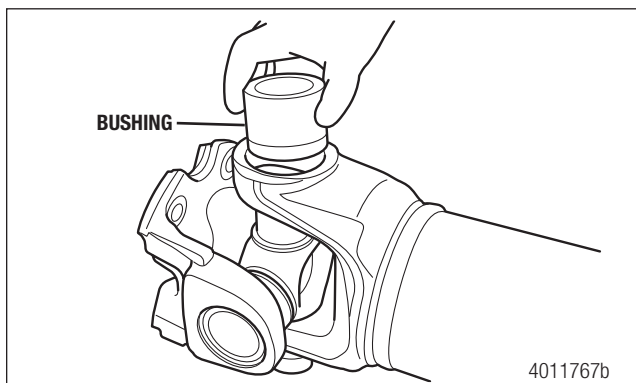

Figure 5.95
4. Install the bushing on top. Figure 5.95.